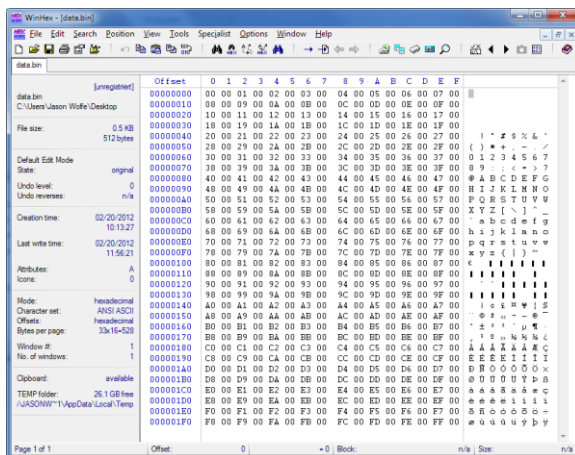

Figure 8 – Hex Editor with Incrementing Count
- d. To verify that the data read correctly, click the “Edit” button in the “Read” section. This will launch a hex editor that will display the contents of the file. Verify that there is an incrementing count as shown in Figure 8. Note that depending on the endianness of your system, the MSB and LSB of the read data may be reversed from that shown in Figure 8.